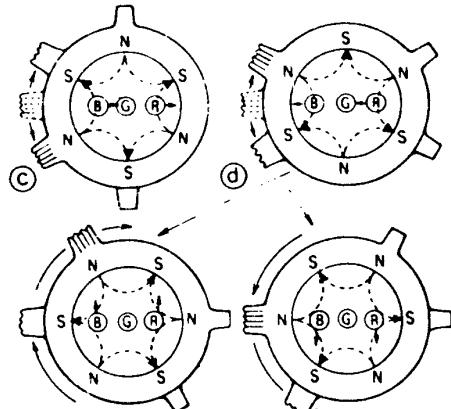

FIGURE 6
4. Move the two Purity Magnets and bring the Magenta belt to the mechanical center of the screen (See Fig. 5). The vertical center position should be set VRS to  $-5/64"$  (-2 MM) as shown in Fig. 6.